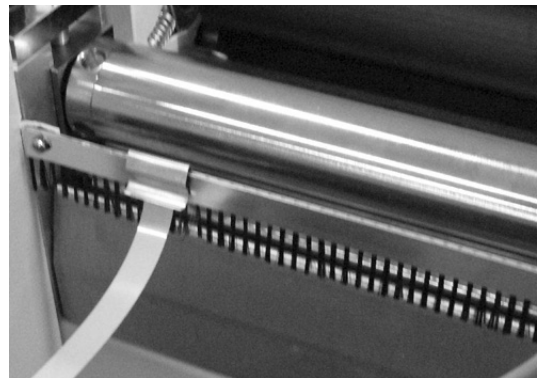

Figure 12
4. Figure 12 shows strap and clip in place.